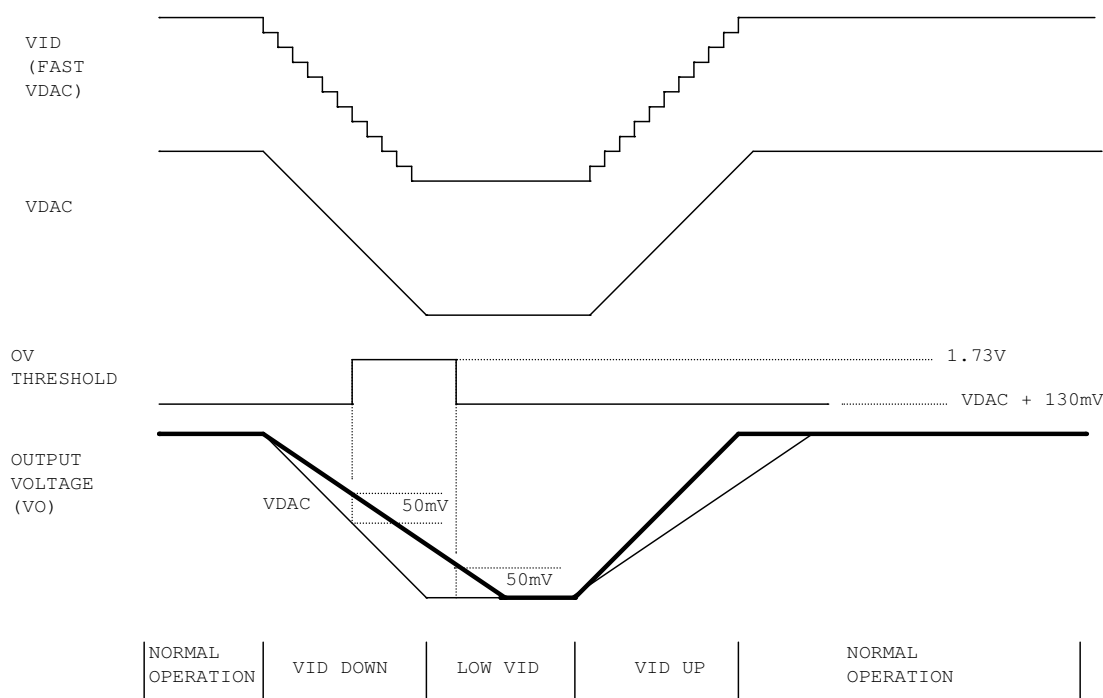

Figure 17 Over-voltage protection during dynamic VID
If either remote sense line VOSEN+ or VOSEN- or both are open, the output of remote sense amplifier (VO) drops. The IR3502 monitors VO pin voltage continuously. If VO voltage is lower than 200 mV, two separate pulse currents are applied to VOSEN+ and VOSEN- pins respectively to check if the sense lines are open. If VOSEN+ is open, a voltage higher than 90% of $V(VCCL)$ will be present at VOSEN+ pin and the output of open line detect comparator will be high. If VOSEN- is open, a voltage higher than 700mV will be present at VOSEN- pin and the output of open-line-detect comparator will be high. The open sense line fault latch is set, which pulls error amplifier output low immediately and shut down the converter. The SS/DEL voltage is discharged and the fault latch can only be reset by cycling VCCL power. During dynamic VID down, OVP may be triggered when output voltage can not follow VDAC voltage change at light load with large output capacitance. Therefore, over-voltage threshold is raised to 1.73V from $VDAC+130mV$ whenever dynamic VID is detected and the difference between output voltage and VDAC is more than 50mV, as shown in Figure 17. The over-voltage threshold is changed back to $VDAC+130mV$ if the difference is smaller than 50mV.